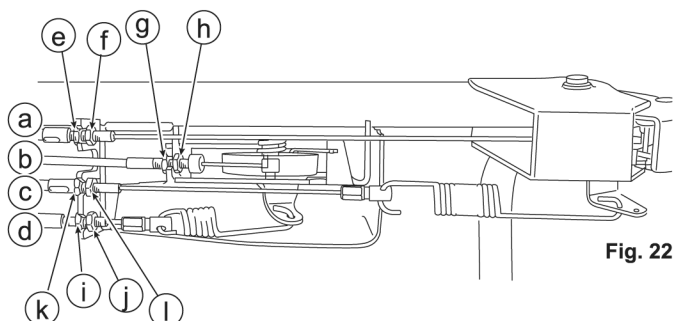

Fig. 22
8.5.1 Throttle Lever (See Figs. 22 and 23)
8.5.2 Blade Lever (See Figs. 22 and 24)
3. Confirm that the blade stops completely when Blade lever (C) is released.
8.5.3 Drive Clutch Lever (See Figs. 22 and 25)
3. Confirm that the machine can be pull backward when Drive clutch lever (B) is released.
8.5.4 Gearshift Lever (See Figs. 22 and 26)